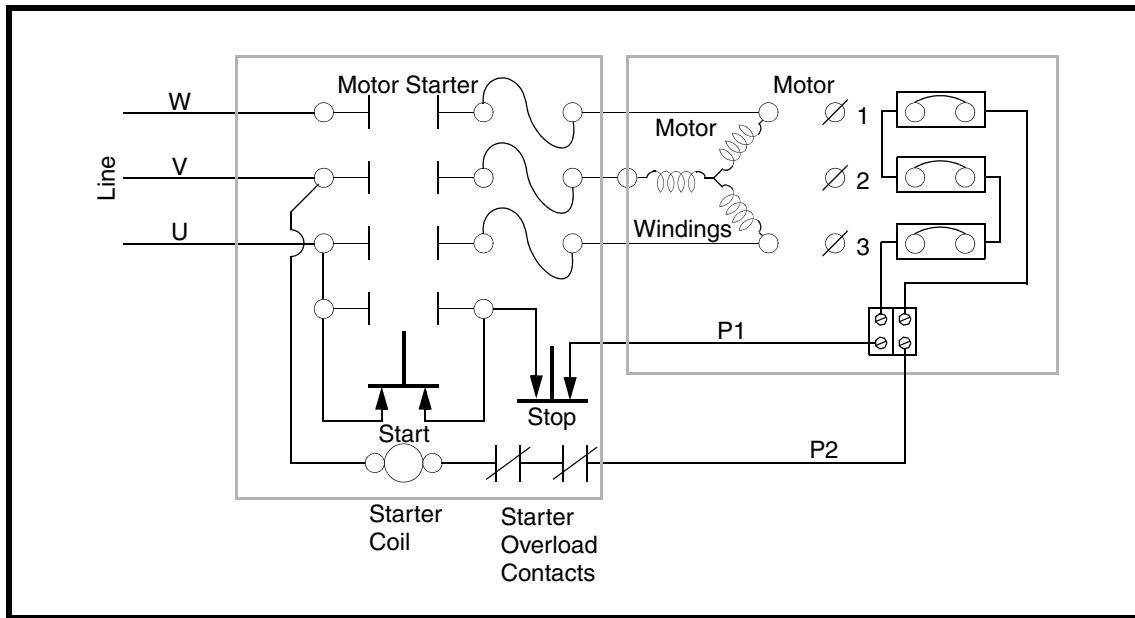

Figure 5. Manual Reset Connections
1. For MXX Vibrators, wire thermostats to control circuit. See Figure 5.